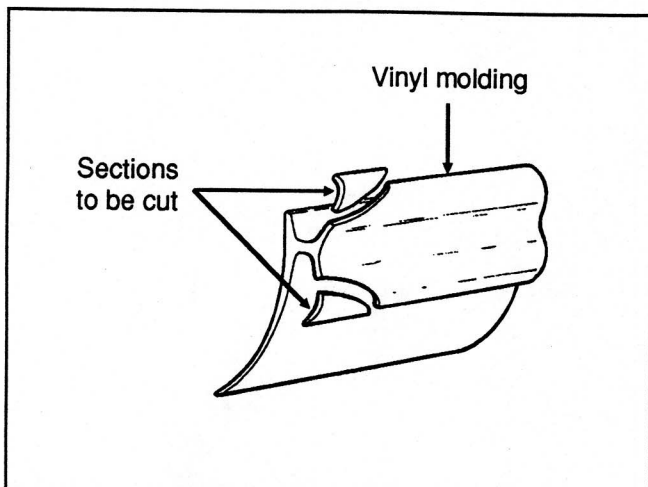

Figure 5
24. Cut the inside lips of the vinyl molding to an angle. See figure 5.